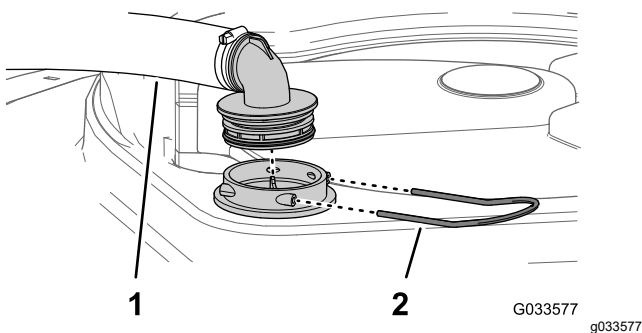

Figure 112
2. At the top of the sprayer tank, remove the retainer that secures the hose fitting attached to the large hose from the filter housing (Figure 112).
3. Remove the hose and hose fitting from the filter housing (Figure 112).